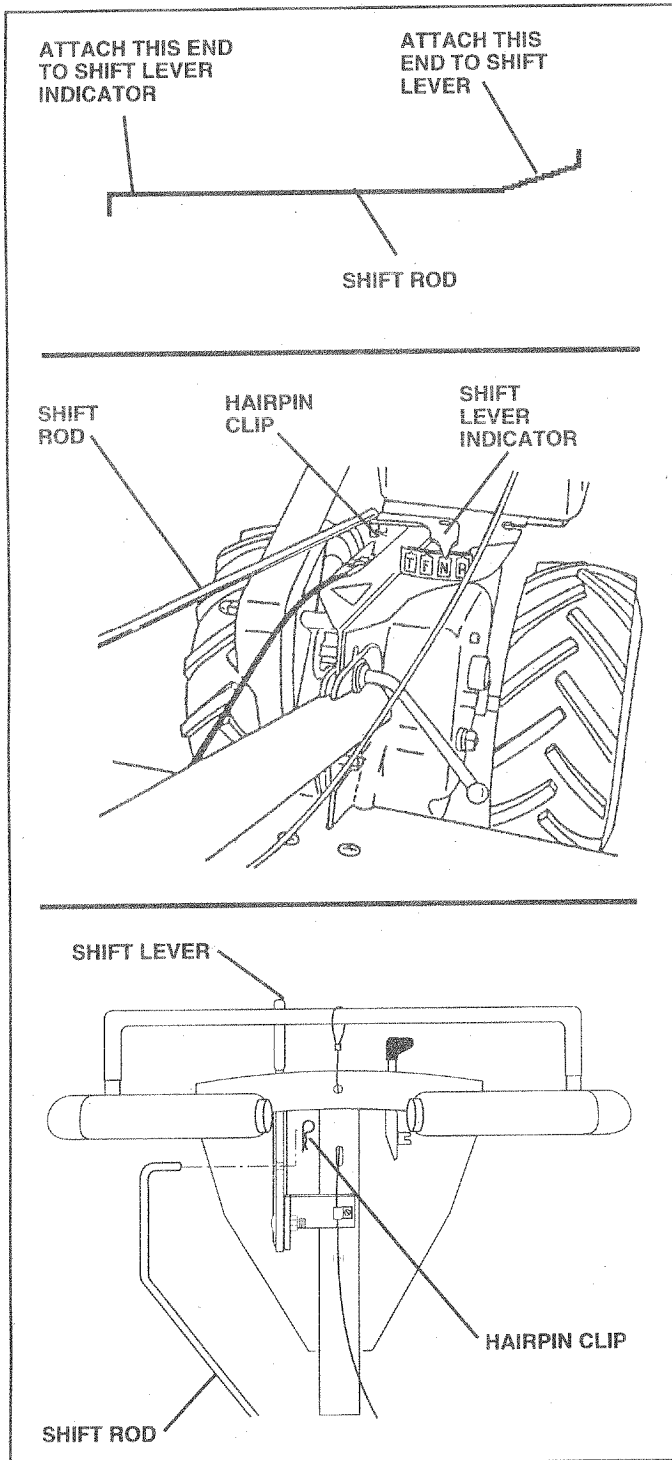

FIG. 6
## CONNECT SHIFT ROD (See Fig. 6)
- Make sure shift lever indicator is in "N" (neutral) position (See Fig. 6)